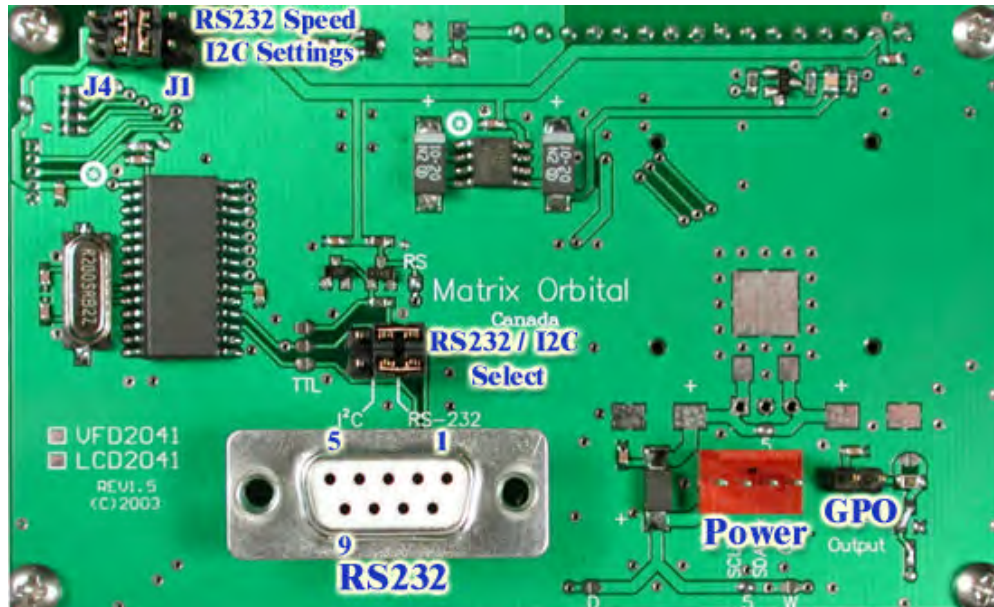

Figure 2-1 Electrical Connections
1. Refer to the diagram above and Figure 2-1 for the following steps.
Power is applied via pins 1 and 4 as shown in Figure 2-1. Power requirement for standard units is +5 VDC $\pm 0.25V$ (units with the wide voltage range option require 7 – 15 Vdc or 7 – 35 Vdc). Power may also be supplied via the RS-232 connector as described in section 2.2.2.